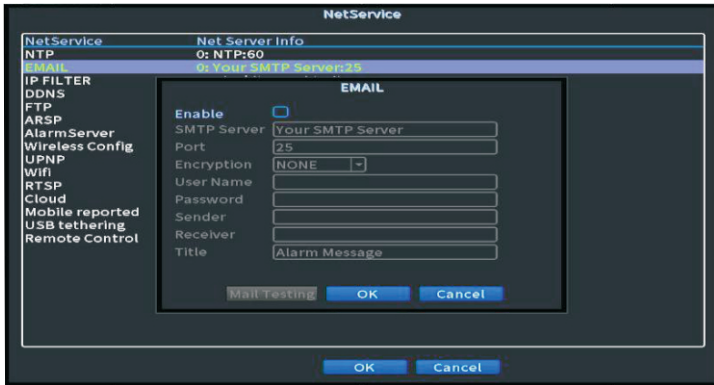

Figure 20. “EMAIL” configuration screen. SMTP Server, “Sender” and, “Receiver” email address fields.
7. “EMAIL” configuration will be shown. See Figure 20.
8. Input the SMTP Server. See Figure 20.